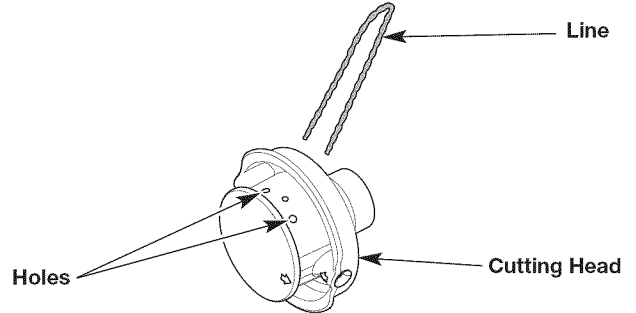
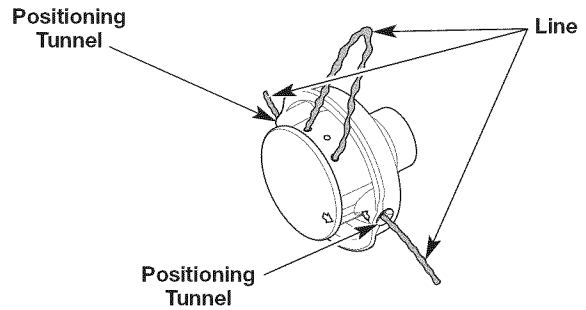

Fig. 13
Fig. 14
3. Insert the ends of the line through the large circular holes in the side of the cutting head (Fig. 13). Push the line through the holes until both ends protrude from the positioning tunnels (Fig. 14).